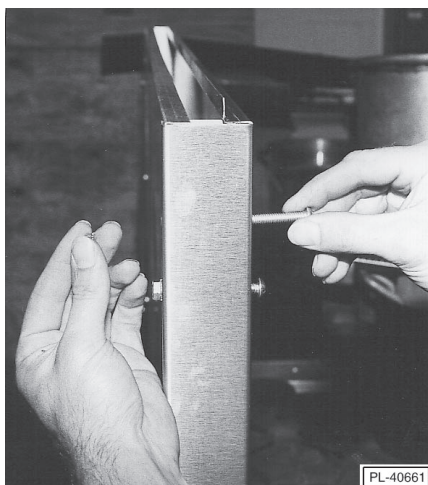

Fig. 10
7. From the front, install four $\frac{1}{4}$ -20 x $2\frac{5}{16}$ " (58.7 mm) long machine screws and secure bolts with locknuts. Do not tighten the screws all the way down. Leave about $\frac{1}{4}$ " (6.4 mm) of play in each screw (Fig. 10)